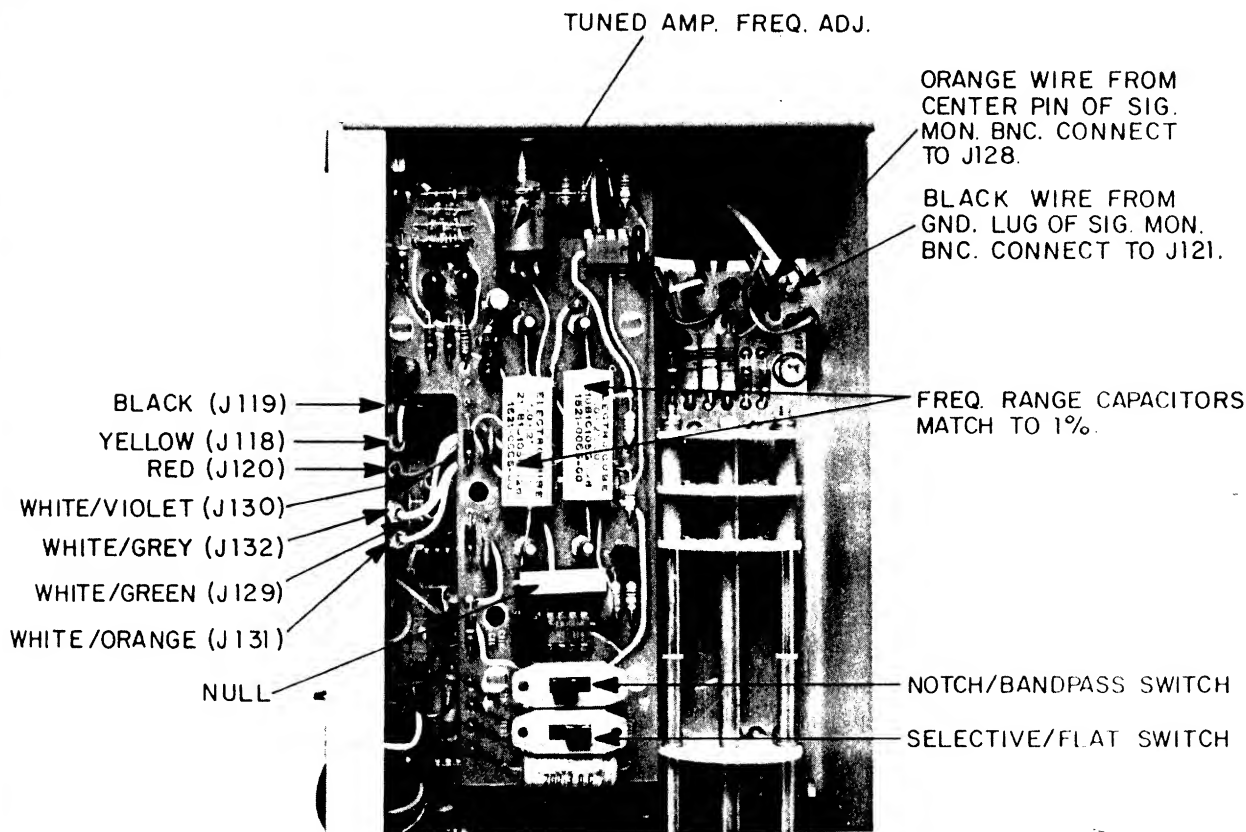

Figure IV-14. TUNED AMPLIFIER INSTALLED
Note from Figure IV-14, a photograph of the Model 128A with the Tuned Amplifier installed, that there are two trim-adjustments and two switches on the Tuned Amplifier
- (3) Position the Tuned Amplifier as shown in Figure IV-14 but do not snap it into place yet. (It is easier to make the wire connections first.)
- (4) On the Model 128A, remove the jumper (white/orange) which interconnects J129 and J130. Also remove the jumper (white/violet) which interconnects J131 and J132. It may be a good idea to tape these jumpers somewhere to a chassis surface inside the Model 128A to prevent their becoming lost.
- (5) Make the wire connections from the Selective Amplifier to the following listed pins.